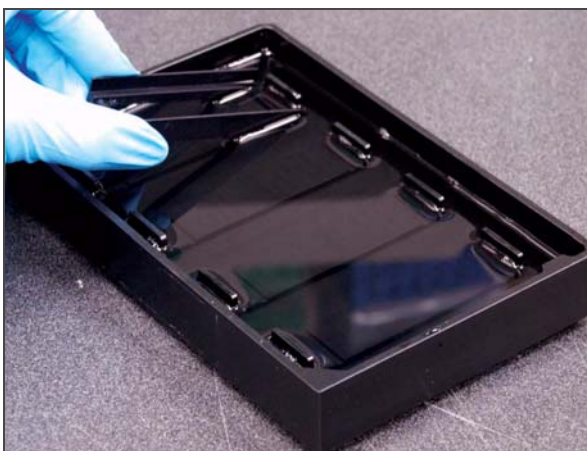

Figure 51 Placing Black Frames into Multi-Sample BeadChip Alignment Fixture
2. For each BeadChip to be processed, place a black frame into the Multi-Sample BeadChip Alignment Fixture (Figure 51) pre-filled with PB1 (see *Preparation* on page 51).